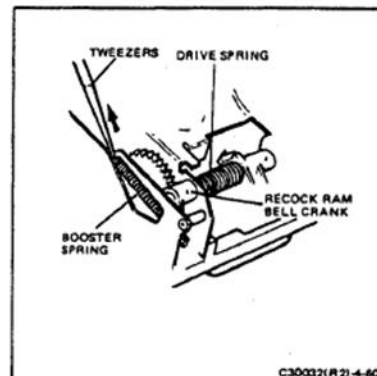

FIGURE 4-60 REMOVING BOOSTER SPRING
6. Refer to Figure 4-60. Use the tweezers to catch the end of the booster spring. Stretch the spring just enough to unhook the end of the spring.
11. Grasp the recock-ram (Figure 4-60) bell crank. Rotate the bell crank counterclockwise until it disengages the slot in the drag link.